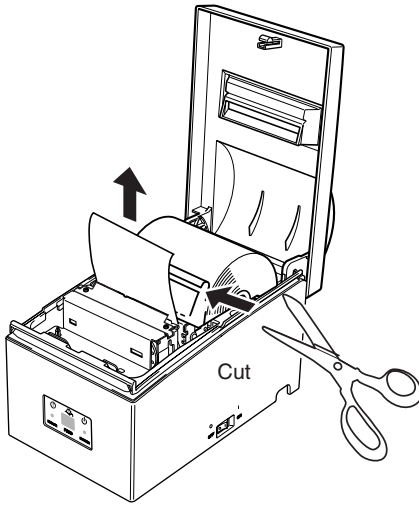

Fig. 5-16 Cutting the paper
④ Cut the paper before the paper feeder as shown in Fig. 5-16.
⑤ Remove the jammed paper and reload the roll paper.